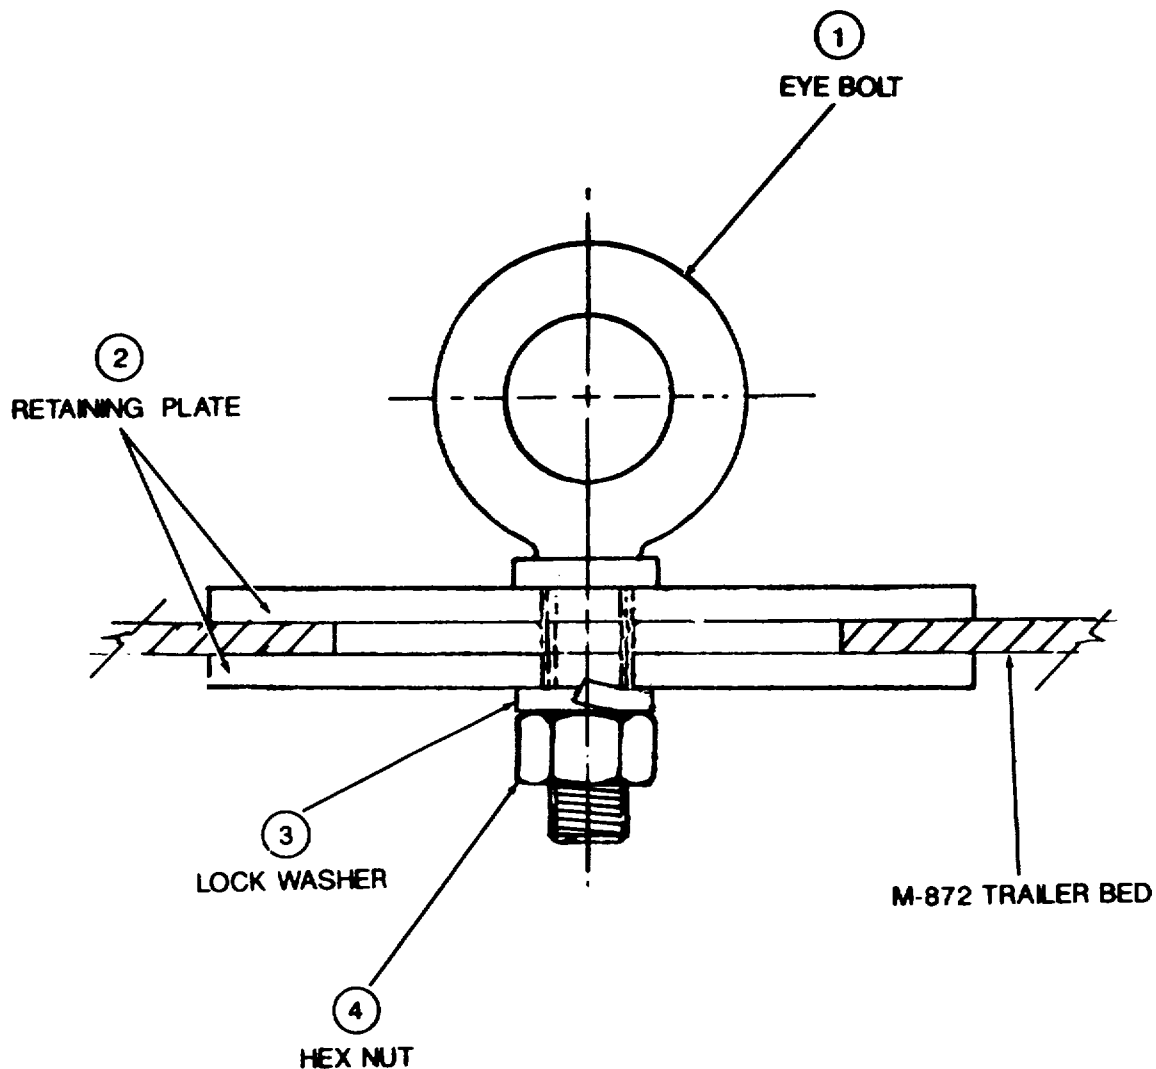
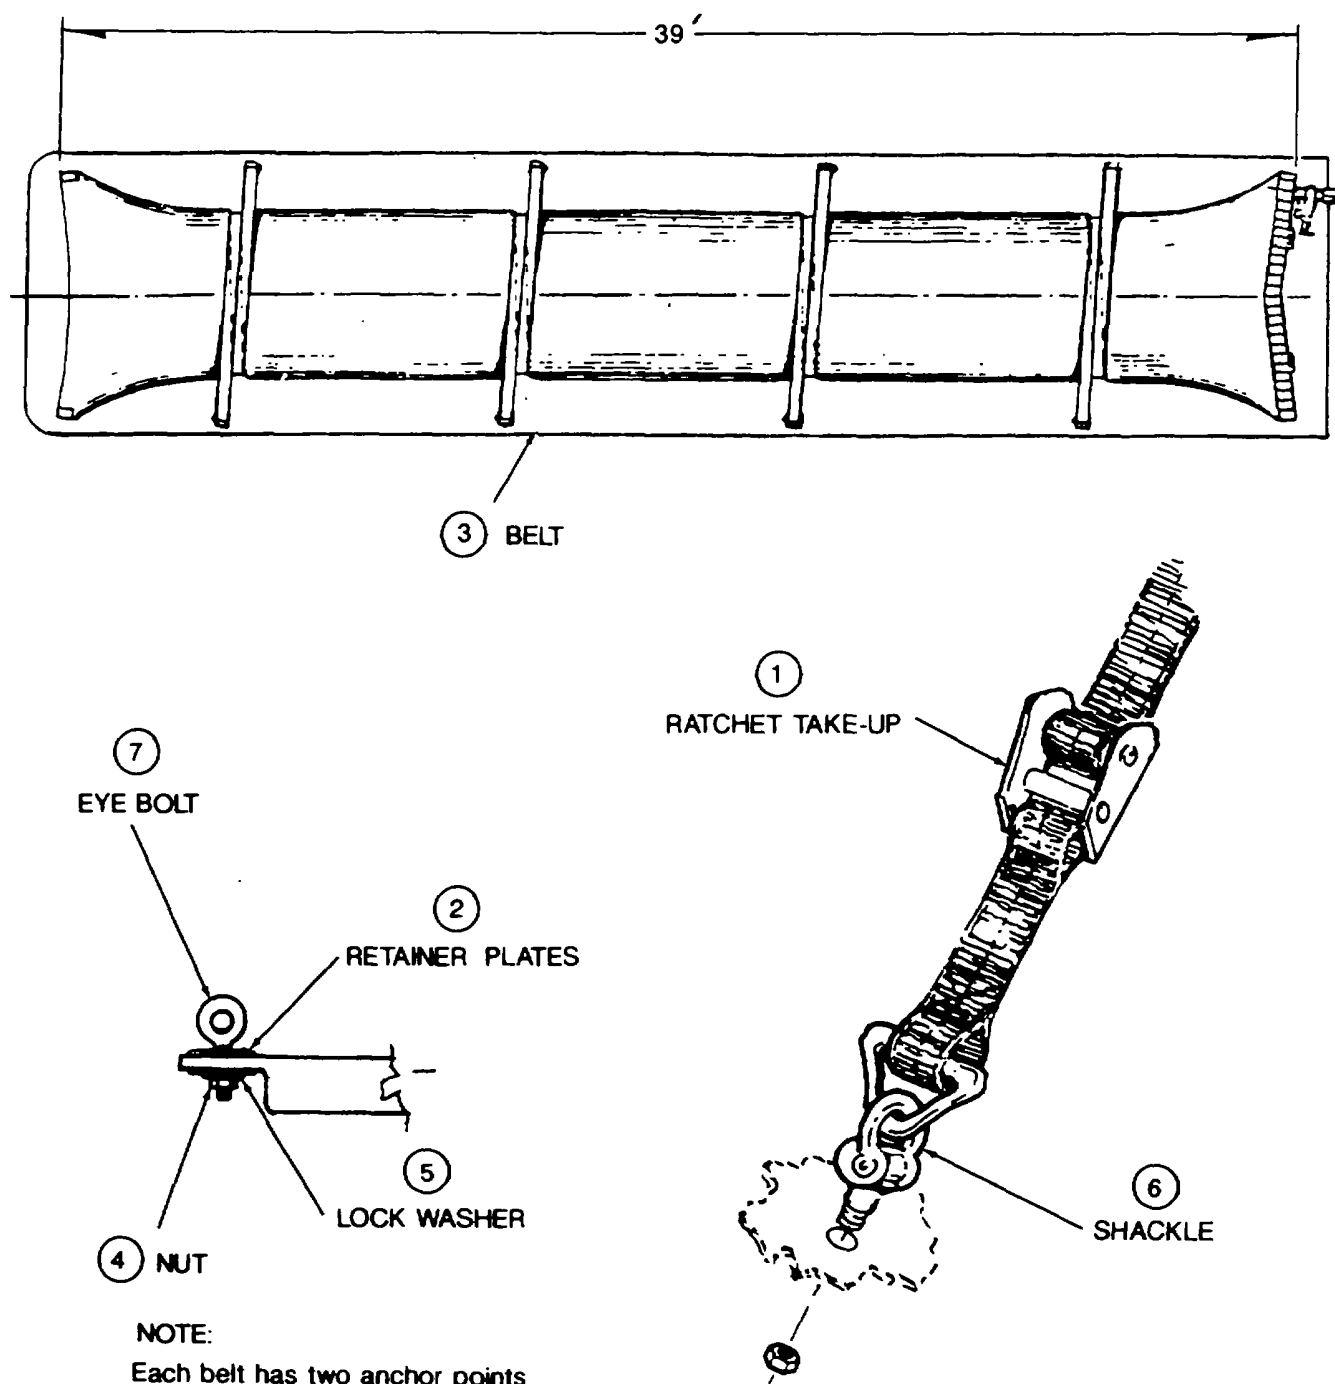

Figure 2-2. Semi-Trailer Anchor Assembly
Figure 2-3. Tie-Down Assembly (Model 5,000gallon)
- (1) Clear truck bed of splinters, protruding nails and other foreign objects that could puncture or chafe the tank. Place bed cloth on truck bed forward; unroll to rear (Model 91094 only).
- (2) The tank shall be secured to the trailer with a four-belt tie-down kit. This kit is made and assembled in accordance with Figs. 2-2 and 2-3 or 2-3A. There are two anchor points (Fig. 2-3 or 2-3A) per strap to provide maximum support to the tank during transport. Each anchor point consists of a 5/8" diameter eyebolt, two retaining plates, one 5/8" hex nut, one lockwasher assembly and, for Model 91094 Tie-down Assembly, one flat washer.
- (3) Locate the anchor points as shown in Figure 2-2 and install as shown in Fig. 2-3 or 2-3A. For Model 5,000 gallon only, re-check the area for sharp objects. If the surface is rough and jagged, it will be necessary to place plywood or a tarpaulin down for the tank to rest upon.
- (4) Attach the ratchet take-up mechanism to each anchor point by using a shackle between the eye-bolt and delta ring on the ratchet take-up mechanism.
- (5) Lay the tie-down straps crosswise to the length of the semi-trailer bed as shown in Fig. 2-3 or 2-3A. Make sure the belts are centered accurately between the eyebolts. Let the remaining portion of the belts lay over the side of the trailer. Care should be taken to insure that each strap is not twisted and is laying flat. The area is now prepared for tank unfolding.
- d. Replace tie-down assembly (Figure 2-3 or 2-3A).
- (1) Remove and replace tie-down belts if frayed, torn, or cut.
- (2) Remove and replace eyebolt lockwasher or nut if mutilated or if threads are stripped or damaged.
- (3) Remove and replace ratchet take-up, shackle, or other damaged hardware.